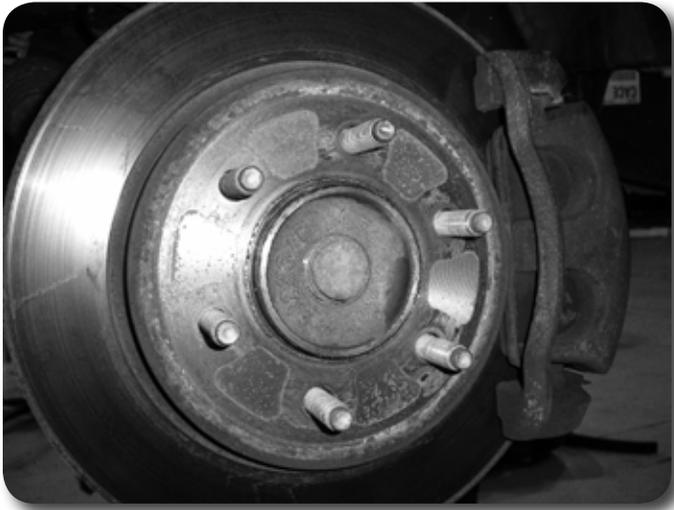

Figure 9
16. Carefully remove the hub dust cap to expose the axle shaft nut (Figure 9). Remove the nut. Keep the cap and nut, they will be reinstalled later.